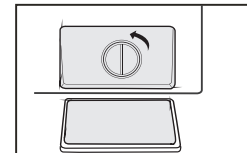

Fig 19
2.Turn the filter down as shown with the figure and take out sundries matters (Fig 19).